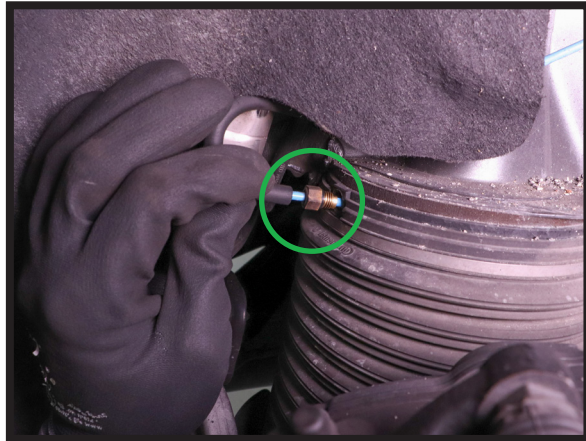

FIGURE 2
4. DISCONNECT THE AIR LINE USING A WRENCH. REMOVE AIR LINE FITTING (FIGURES 2, 3, 4)